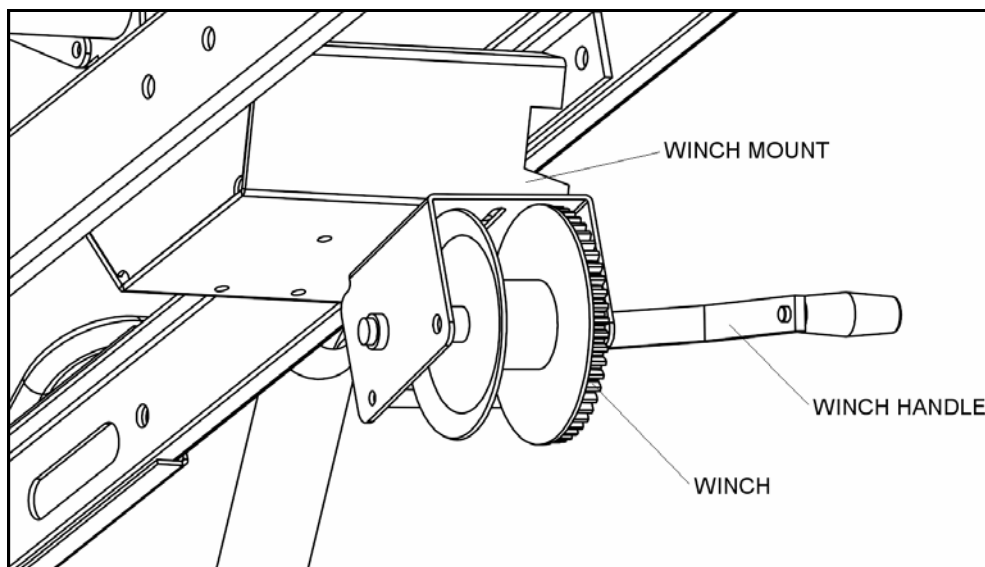

Figure 3.19 Winch Installation
3. Attach winch to mount with three $\frac{3}{8}$ " x 1" bolts and locknuts. Use the set of holes shown in Figure 3.19.